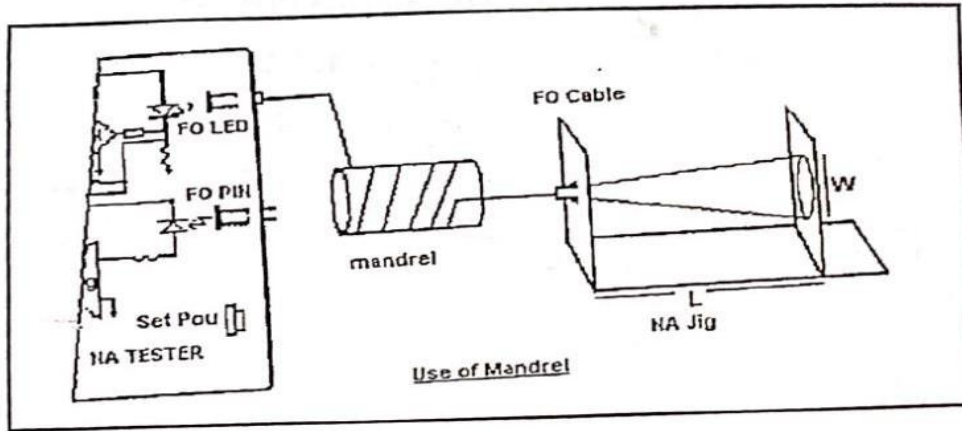

FIGURE 3
5. In case the FIBER is under filled, the intensity within the spot may not be evenly distributed. To ensure even distribution of light in the FIBER, first remove twists on the FIBER and then wind 5 turns of the FIBER on to the mandrel as shown in figure 3. Use an adhesive tape to hold the windings in position. Now view the spot. The intensity will be more evenly distributed within the core.
Fig. 3 shows the drain characteristics of N-channel type MOSFET. It may be noted that the current I_D for $V_{GS} \leq 0$ is very small, of the order of a few nanoamperes. As the voltage V_{GS} is made more positive, the current I_D increases slowly at first and then at much more rapid rate.